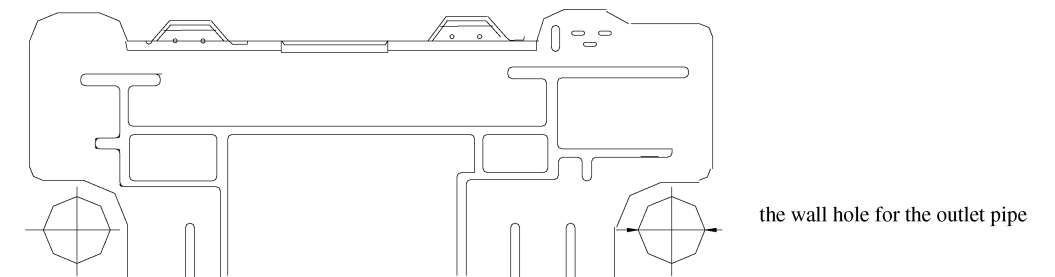

Fig.1
4. The diameter showed on the fig.1 is: 50mm for model 20、25、35; 65mm for model 50.
☆ Make the piping hole (Φ50 or Φ65) in the wall at a slight downward slant to the outdoor side. The center of the hole should be determined refer to Fig.1.